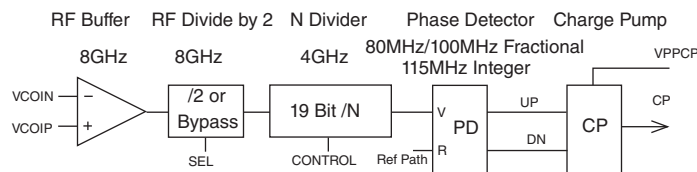

Figure 28. RF Path
The RF path is shown in Figure 28. This path features a low noise 8GHz RF input buffer followed by an 8GHz RF divide-by-2 with a selectable bypass. If the VCO input is below 4GHz the RF divide-by-2 should be by-passed for reduced power consumption and improved performance in fractional mode. The RF divide-by-2 is followed by the N divider, a 19 bit divider that can operate in either integer or fractional mode with up to 4GHz inputs. Finally the N divider is followed by the Phase Detector (PD), which has two inputs, the RF path from the VCO (V) and the reference path (R) from the crystal. The PD can operate at speeds up to 80MHz in fractional Mode A, 100MHz in fractional Mode B and 115MHz in integer mode.